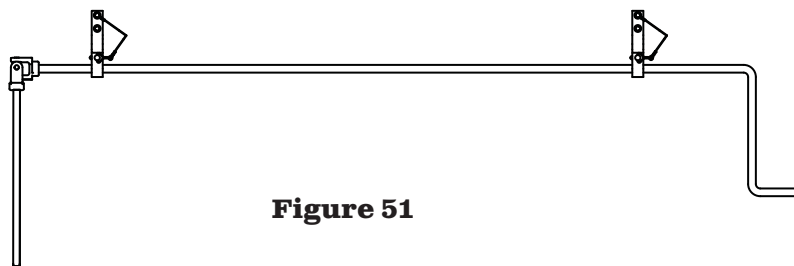

Figure 51
1) Figure 51. Mount two crank retainers within easy reach of the operator. Secure with 3/8 x 1 type F HWH bolts.